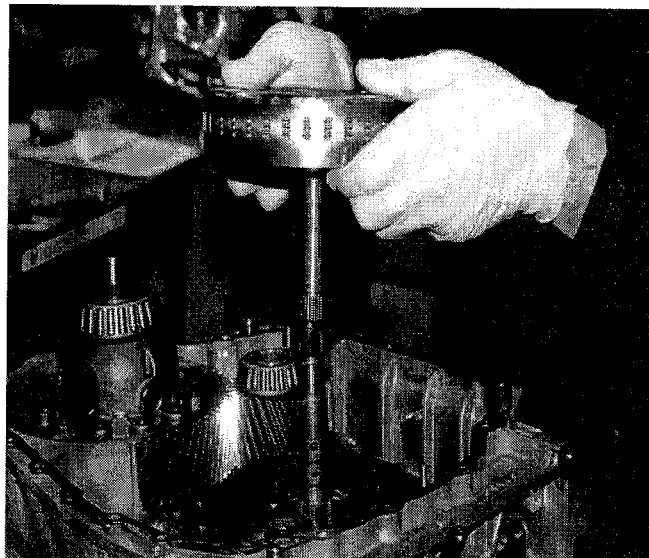
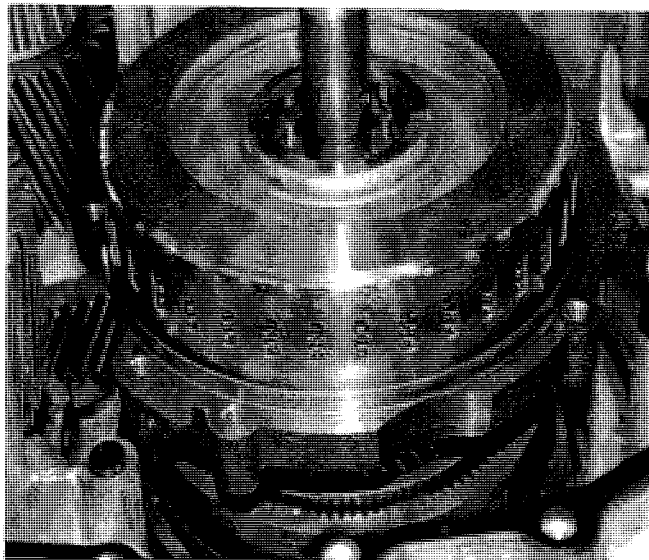

Fig. 19 E Clutch And Hub Installation
Fig. 20 E Clutch And Hub Properly Seated
50. Remove the E-Clutch clutch pack and hub from the bell housing and while holding the clutch friction discs and fibers in place inside of the hub, install assembly onto the OPSA. See (Fig. 19) and (Fig. 20).